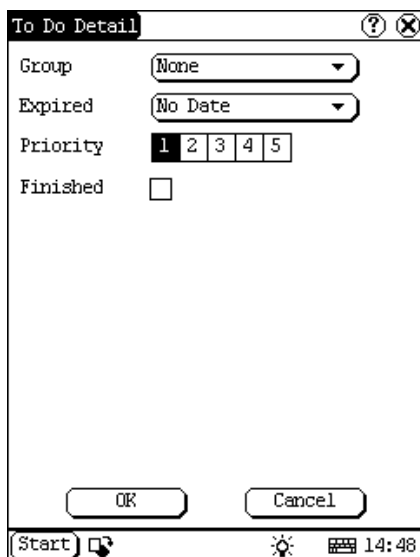

Figure 5-24
- 3) Click [Detail] button to open the To Do Detail interface. See Figure 5-24.